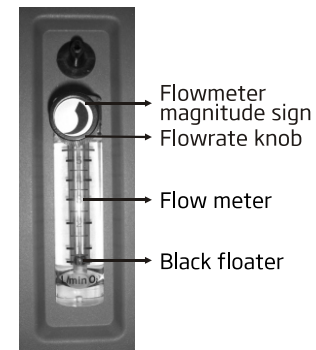

Figure 3
- › Turn the flowrate knob to require oxygen need (Reed as centre of the black ball). Turn the knob anticlockwise to increase the flowrate, and clockwise to decrease. Meanwhile, humidifier bottle will have air bubble around the sieve core. Then, oxygen comes from the oxygen outlet. (Figure 3)